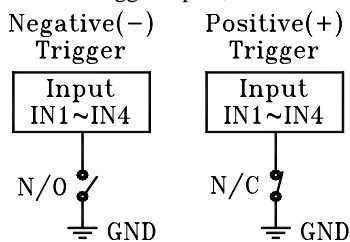

Fig. 3
- **+** is for positive trigger, from GND voltage to higher voltage (+5~15VDC) or N/C type external contact (refer to Fig. 3).
- **-** is for negative trigger, from higher voltage (+5~15VDC) to GND or N/O type external contact (refer to Fig. 3).